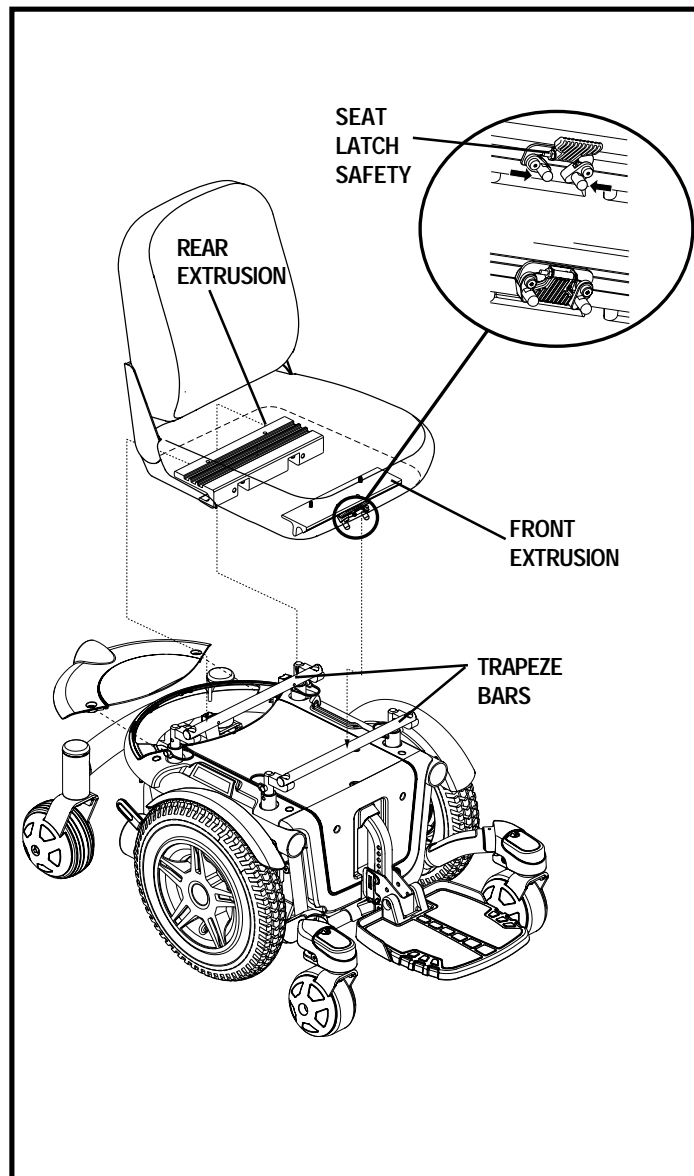

Figure 11. Universal Mounting System (Shown Without Armrests for Clarity)
It may be necessary to install the seat either prior to initial operation or after transporting your power chair. If your power chair is equipped with a Synergy, Tru-Balance or Specialty seating system, refer to the information provided in separate manuals. The medium- and high-back seats are attached to the power base with the Universal Mounting System (UMS). The UMS consists of universal parts that may be attached to the seat, regardless of seat width or seat depth. The two main components are aluminum extrusions mounted to the seat base. These extrusions attach to a pair of trapeze bars that are mounted to the power base. See figure 11.
2. Tilt the seat back and slide the rear extrusion onto the rear trapeze bar. See figure 11.
4. Flip up the seat latch safety. See figure 11.